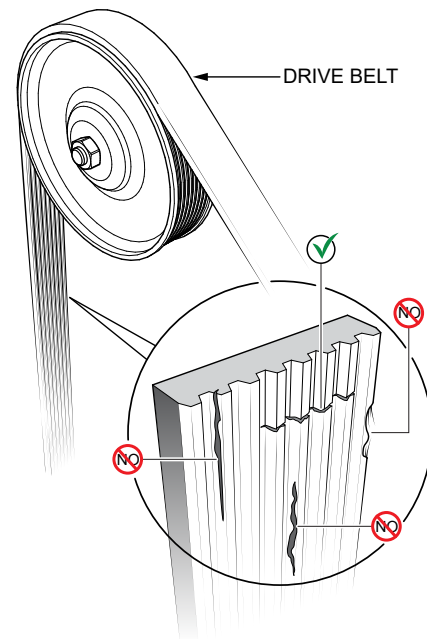

Figure 70. Drive Belt Inspection
1. Inspect the drive belt (Figure 70) for damage and wear. Horizontal cracks (across the belt) are acceptable. Vertical (direction of belt ribs) cracks that intersect with horizontal cracks are not acceptable.